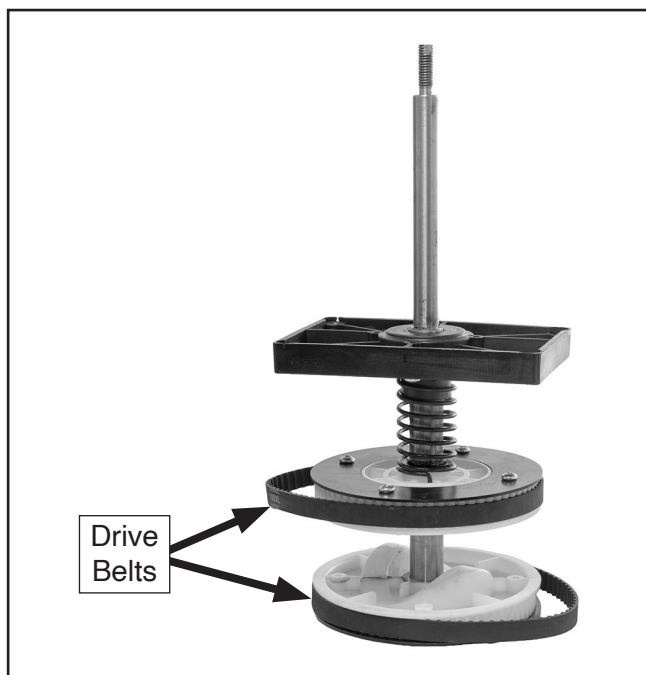

Figure 46. Location of drive belts on spindle pulleys.
8. Remove and replace drive belts on spindle pulleys (see **Figure 46**).